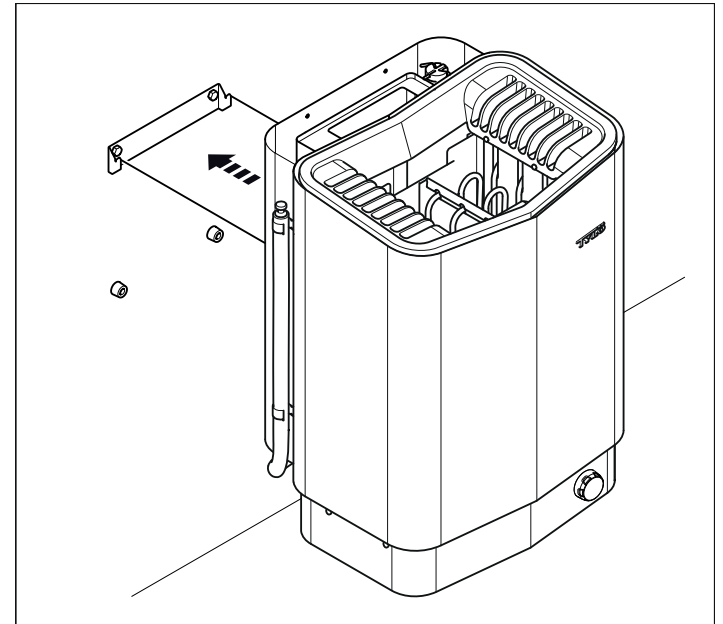

Figure 11: Hang the heater up.
9. Hang the heater on the bracket (see Figure 11).